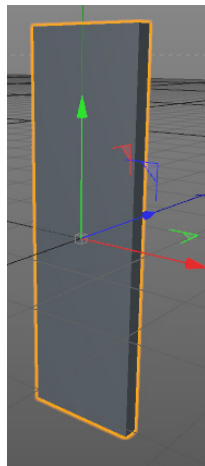

Figure 2-9 Rectangle extruded in the Perspective viewport
4. Select the *Rectangle* in the Object Manager. Press and hold the left mouse button on *Rectangle* and drag the cursor to *Extrude* in the Object Manager; the *Rectangle* is connected to *Extrude* in the Object Manager. Also, *Rectangle* is extruded in the Perspective viewport, as shown in Figure 2-9.